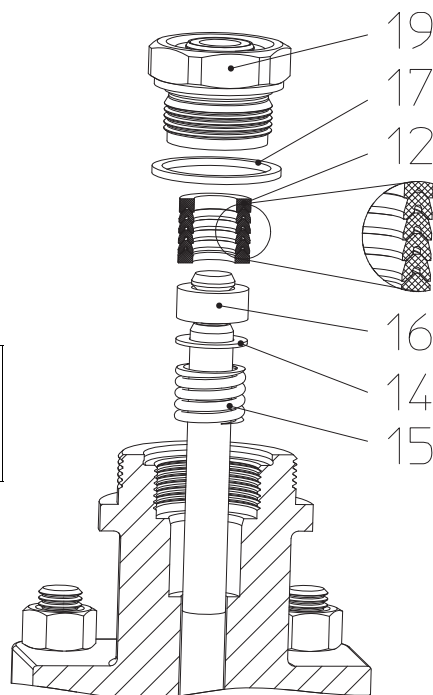

Fig. 6:
**Refer to item 10.0 and 11.0 before dismantling the valve.**
- When replacing PTFE V-ring unit (pos. 12), make sure that the parts are installed in the correct order and positions (refer to Fig. 6).
- Gasket (pos. 17) must be replaced..